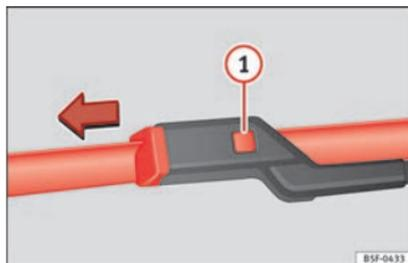

Fig. 200 Changing the windscreen wiper blades
- Hold down the release button » Fig. 200 ❶ while gently pulling the blade in the direction of the arrow.